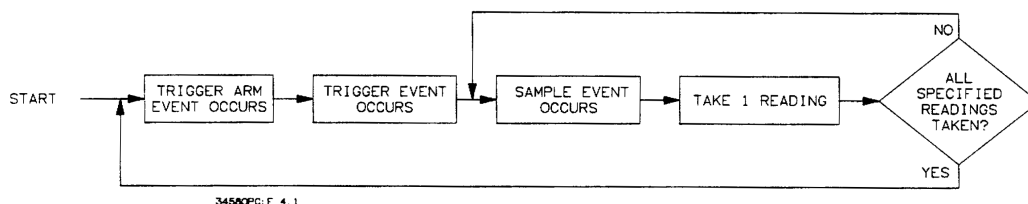

Figure 16. Triggering hierarchy
Before the multimeter will take readings, three separate events must occur in the proper order. These events are (1) the trigger arm event, (2) the trigger event, and (3) the sample event. Sub-sampling (discussed in Chapter 5) and multiple trigger arming (discussed in this chapter) are the only exceptions to this triggering hierarchy. As shown in Figure 16, when all three events have occurred in the order listed, the multimeter begins to make the specified reading(s). In the power-on state, the multimeter is configured so that it makes readings automatically; that is, all three events are set to AUTO. For most applications, you will need to use only one or two of these events and leave the other event(s) set to AUTO. This section describes the various events that can be used to satisfy the trigger arm, trigger, and sample event requirements and contains examples showing how to use these events.